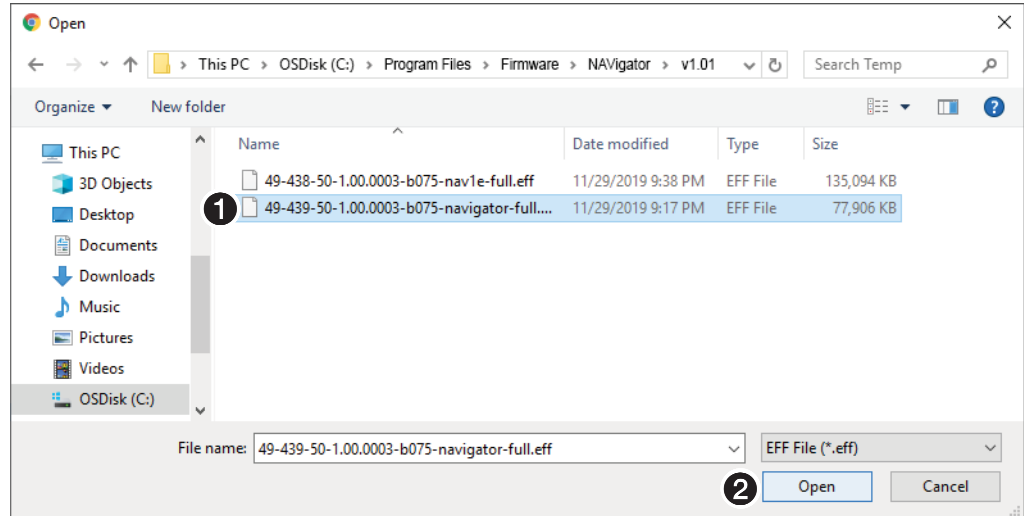

Figure 76. Open Dialog Box
3. If necessary, click **Tools > Device Tools** (②).
4. Click **Firmware** (③).
5. Click **Select File** (④). An open dialog box opens (see figure 76 on page 75).
6. Navigate to the folder where you saved the firmware upgrade file (see figure 76, ❶). Select the file.